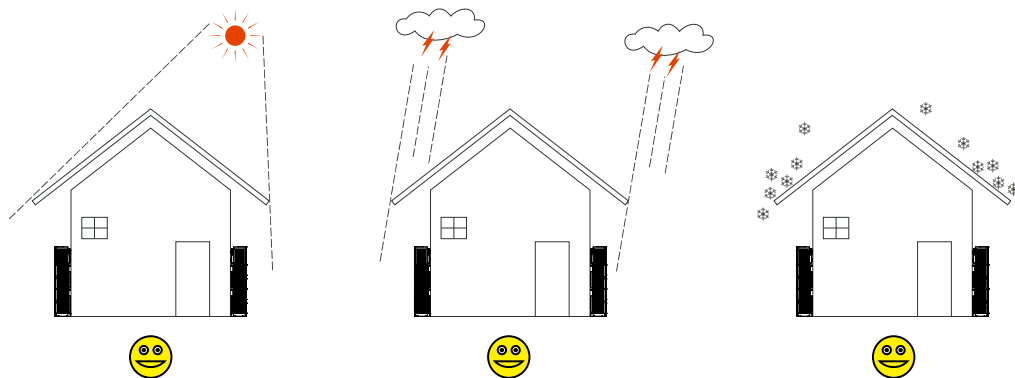

Figure3-2 Recommended installation environment
2. It is suggested to install the iHome-B5-HD02 product under shade as shown in Figure3-2 to max the iHome-B5-HD02 product lifespan and efficiency.